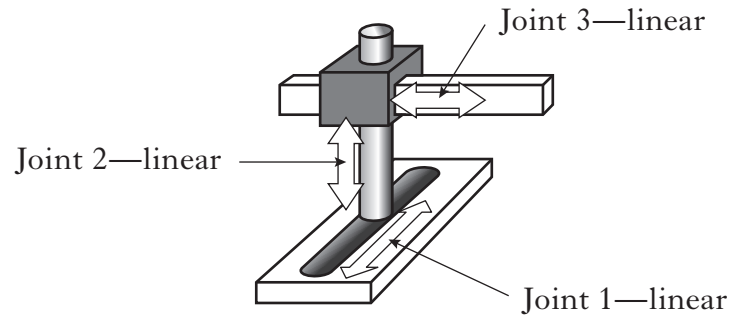

Figure Q3(a)
3. (a) The movement of each joint of a robotic system can be described as **either** Rotary **or** Linear. Figure Q3(a) shows a labelled diagram of a Cartesian robot.